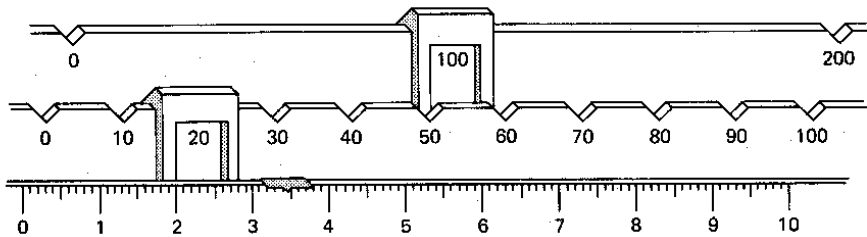

Figure 4
4. The mass of the object is the sum of the masses shown by all of the riders. The mass shown in Figure 4 below is 123.45 g. The hundredths are estimated values.